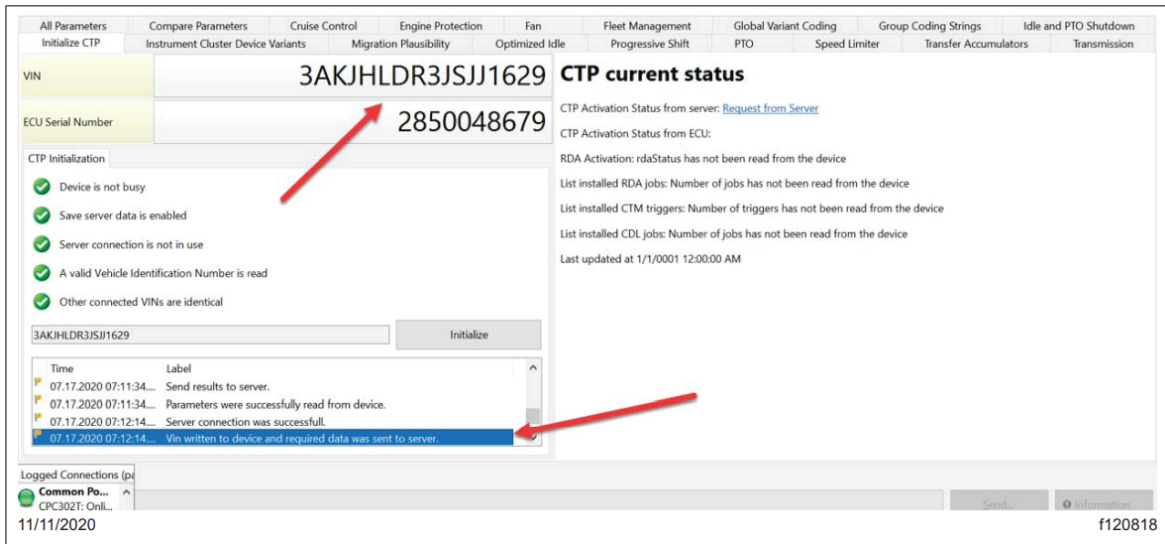

Figure 10 Screenshot of DiagnosticLink
29. For validation that the CTP2 was properly initialized and for the dealership records take a screenshot of the DiagnosticLink window, and make sure the VIN and the last line in the dialog box “VIN written to device and required data was sent to the server” are visible in the capture, as shown in Figure 10. The screen print should be kept as part of the work order.